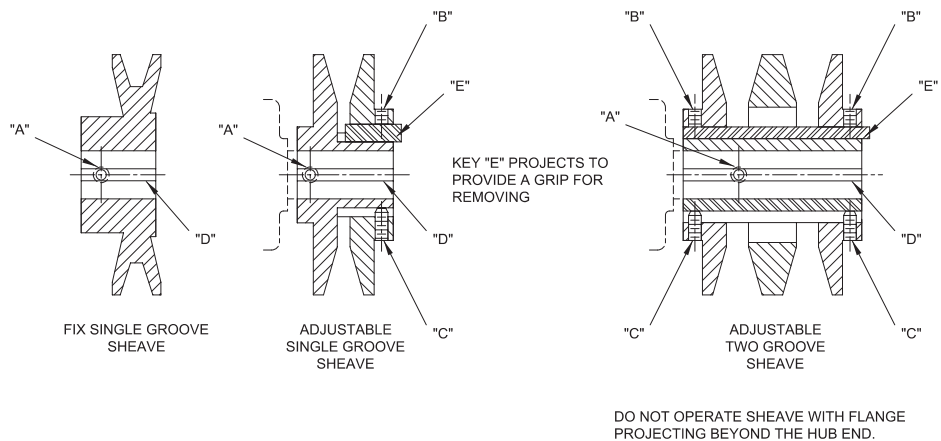

FIGURE 8
3. All straight bore sheaves should be mounted on the motor or driver shaft with setscrew (A) toward the motor (see Figure 8). The sheave should be close to the motor as possible with setscrew (A) in full contact with the key.
Adjust Variable Pitched Sheaves (provided on motor only). See Figure 8.